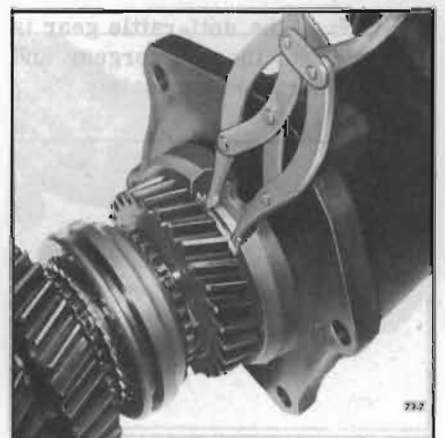

Figure 72-35—Installing Rear Bearing Retainer
4. Install the rear bearing retainer. Spread snap ring in the retainer to allow the snap ring to drop around rear bearing. See Figure 72-35. Press on end of mainshaft until the snap ring engages groove in rear bearing.